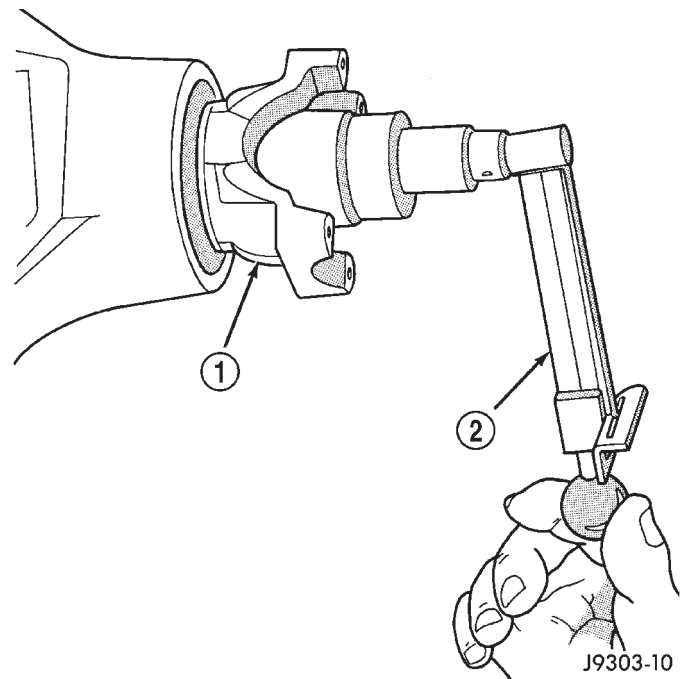

Fig. 9 Check Pinion Rotation Torque
(3) Install the pinion washer and a new nut on the pinion gear. **Tighten the nut only enough to remove the shaft end play.**
(4) Tighten pinion nut to 217 N·m (160 ft. lbs.).
(5) Rotate the pinion shaft using a (in. lbs.) torque wrench. Rotating torque should be equal to the reading recorded during removal, plus an additional 0.56 N·m (5 in. lbs.) (Fig. 9).
(6) If the rotating torque is low, use Holder 6958 to hold the pinion yoke, and tighten the pinion shaft nut in 6.8 N·m (5 ft. lbs.) increments until proper rotating torque is achieved.